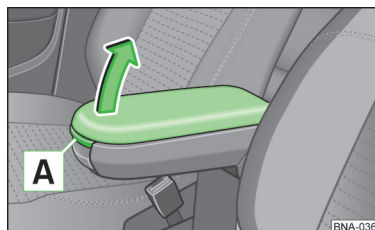

Fig. 47 Opening the storage compartment
- To **open**, push the safety button and lift the lid of the storage compartment in the direction of arrow » fig. 47.